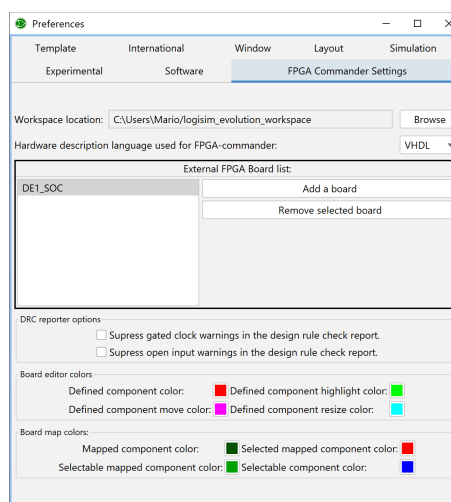

Figure 2.6: The Preferences: FPGA Commander tab
4. Click on the **Settings** button just above the **Target board** panel. A Preferences window should open (Figure 2.6). You should see `DE1_SOC_7seg` under **External FPGA Board list**.